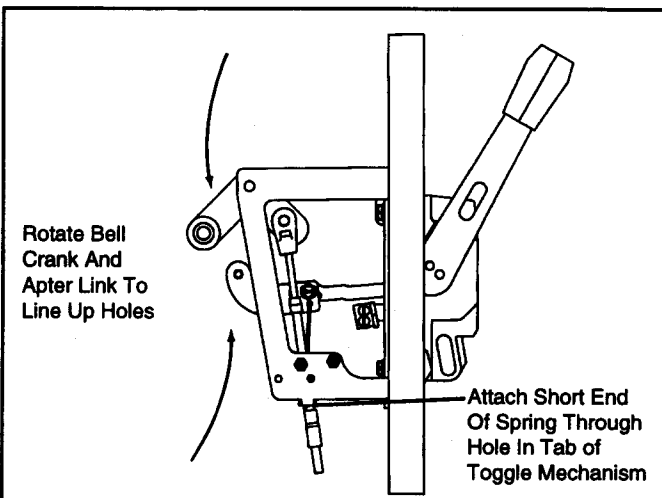

Fig. 1-6 Assembly of Spring to Toggle Mechanism
5. Hook the shorter end of the spring into the tab on the lower portion of the toggle mechanism. See Fig. 1-6 for location.